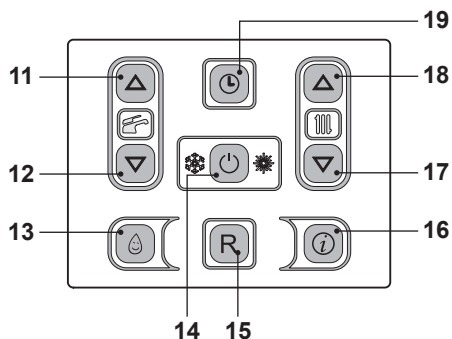

Fig. 2.19
Enter the "timed manual heating function programming menu" by pressing keys 17 and 18 (Fig. 2.19) at the same time for 2 seconds until the symbols shown in Fig. 2.20 appear on the LCD display.
Press key 14 (Fig. 2.19) to modify the function status:
Press keys 11 or 12 (Fig. 2.19) to modify the time interval governing the forced heating function from a minimum of one hour to a maximum of 30 days.
To exit programming without making any modifications, press keys 17 and 18 (Fig. 2.19) at the same time for 2 seconds or wait for 60 seconds.
The function will end when the time set passes or when the function status is set to "oFF". Hold down keys 17 and 18 (Fig. 2.19) at the same time for 2 seconds until the remaining time and the status of the function in progress appears on the LCD display.
Press key 14 (Fig. 2.19) to modify the function status when in "oFF".
To exit programming without making any modifications, press keys 17 and 18 (Fig. 2.19) at the same time for 2 seconds or wait for 60 seconds